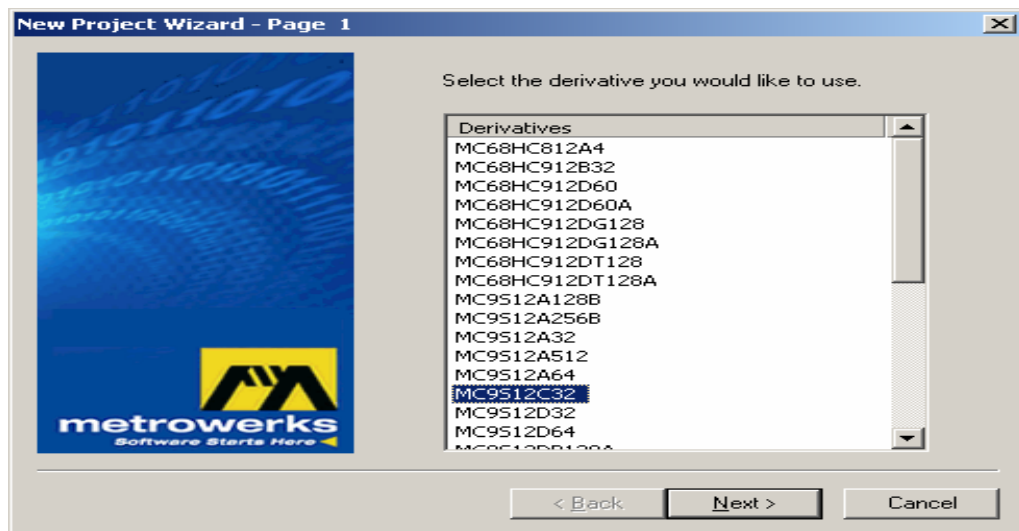

Figure 3
- e. **Figure 3**- Select the HC12 derivative that you will be programming. In this case we have selected the MC9S12C32.